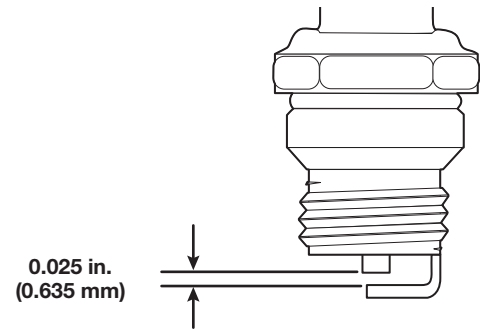

Fig. 24
4. Use a feeler gauge to set the air gap at **0.025 in. (0.635 mm)** (Fig. 24).